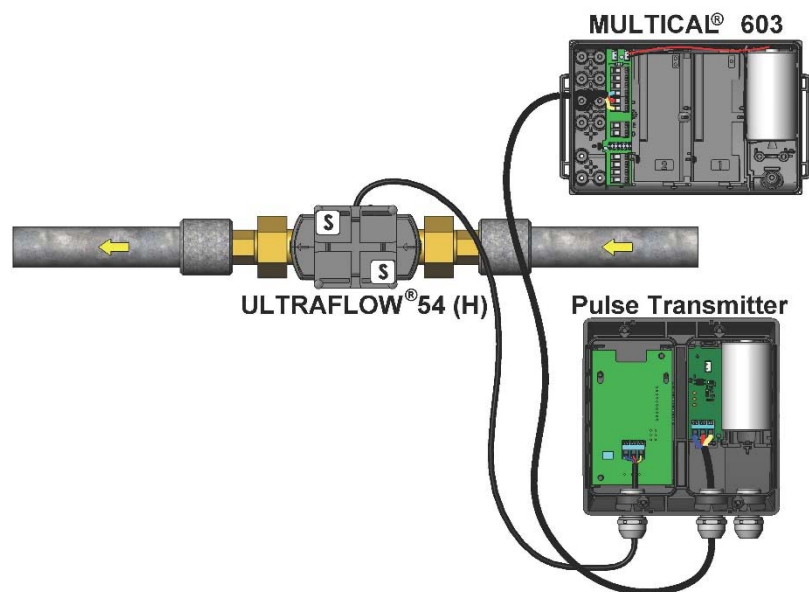

Figure 30. ULTRAFLOW® 54 (H) connected to battery supplied Pulse Transmitter.
**Note:** In connection with battery supply, the unused cable connection must be sealed off as shown in *Figure 30* on page 35.